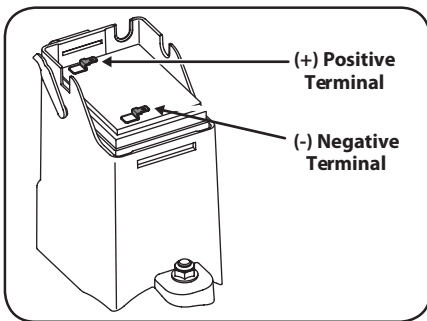

Figure 4-9
6. Replace or sharpen the blades. To properly sharpen the cutting blades, remove equal amounts of metal from both ends of the blades along the cutting edges, parallel to the trailing edge, at a 25° to 30° angle. Always grind each cutting blade edge equally to maintain proper blade balance. See Figure 4-9.